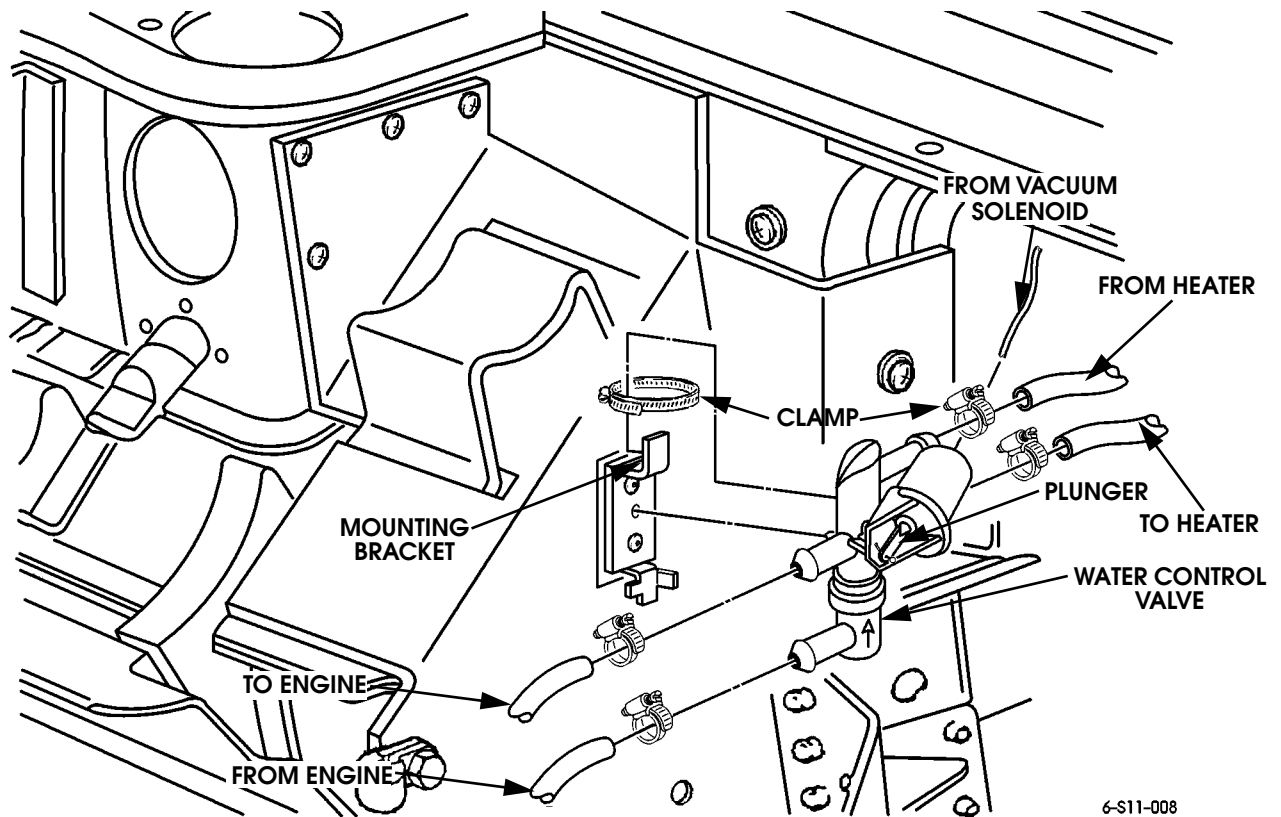

Figure 11-26: Water Control Valve Installation
1. Place a drain container under the vehicle directly below the control valve (Figure 11-26).
1. Gently secure control valve to mounting bracket with clamp (Figure 11-26).
4. Connect the valve vacuum hose (Figure 11-26).